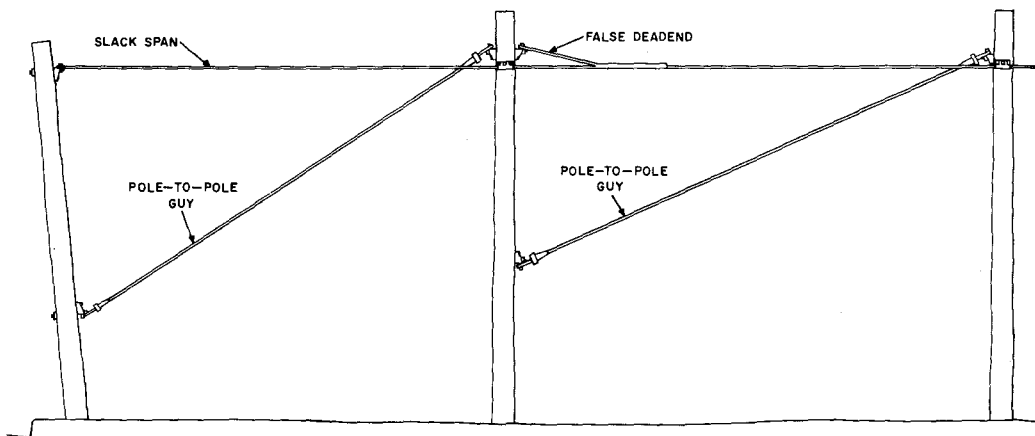

Fig. 3—False Dead End at Slack Span Location
3.04 A typical installation of a false dead end and the proper sequence for tensioning strand at a slack span location is illustrated in Fig. 3.